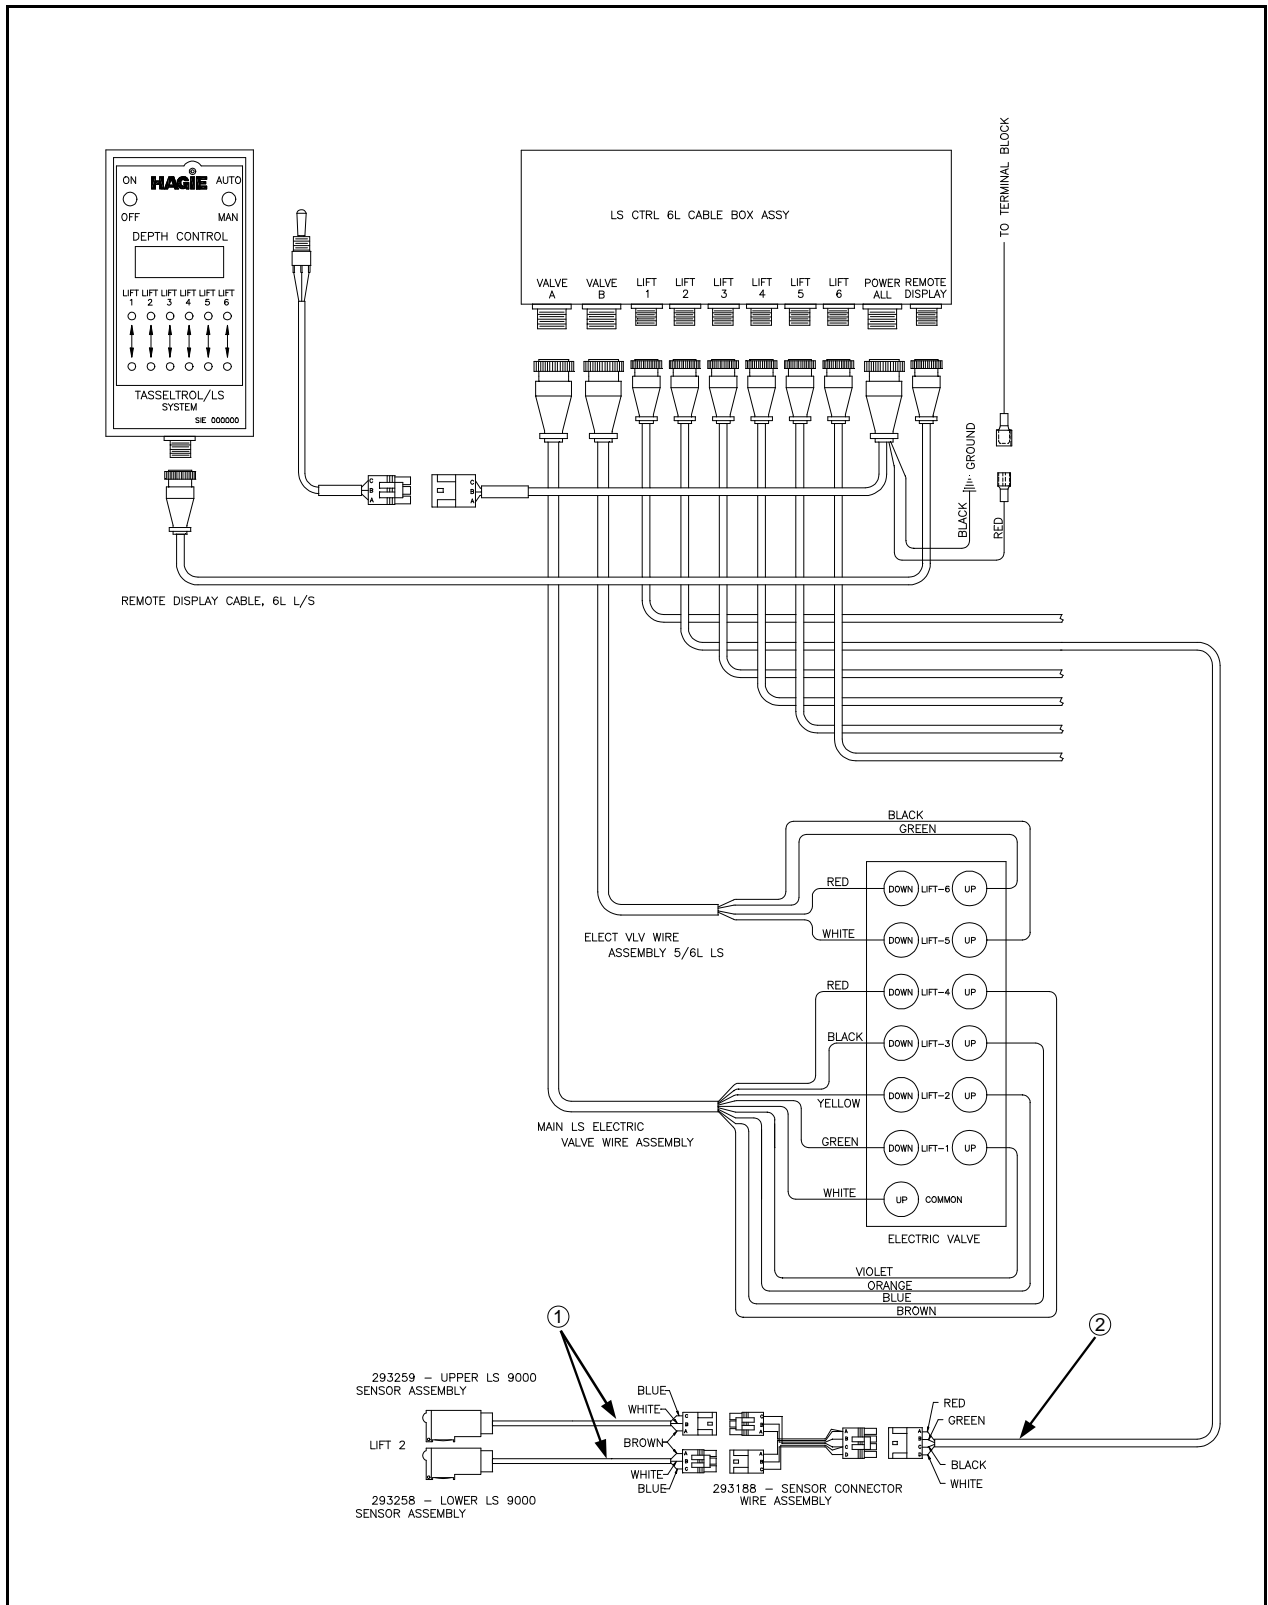

FIG 9.1
No lights at either photo sensor	Faulty connector cable (See page 118, fig. 9.1, item 2) Faulty RED and/or BLACK wire in connector cable (See page 118, fig. 9.1, item 1)
Lights at lower photo sensor	<p>Faulty GREEN wire in connector cable (See page 118, fig. 9.1, item 2)</p> <p>Photo sensor not in line with reflector (See page 34)</p> <p>Faulty BLUE wire in sensor assembly (See page 118, fig. 9.1, item 1)</p>
No lights at lower photo sensor	<p>Faulty RED and/or BLACK wire in connector cable (See page 118, fig. 9.1, item 2)</p>
Lights at upper photo sensor	<p>Faulty WHITE wire in sensor assembly (See page 118, fig. 9.1, item 1)</p> <p>Faulty BLUE wire in sensor assembly (See page 118, fig. 9.1, item 1)</p>
No lights at upper photo sensor	<p>Faulty RED and/or BLACK wire in connector cable (See page 118, fig. 9.1, item 2)</p>